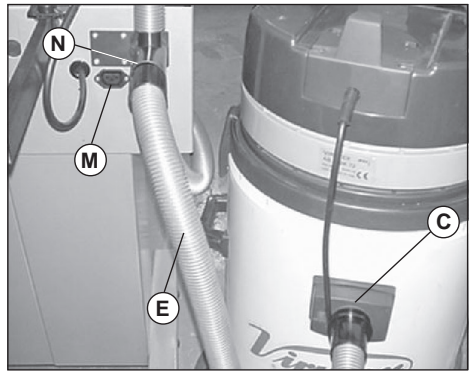

Fig. 4
- Insert the dust collector tube into opening C (Fig. 4) of the dust collector and into the socket of machine N (Fig. 4).
- Connect the aspiration tube to vacuum opening C (Fig. 4) and to the socket on the electric tool.
- Ensure that the float (Fig. 4) is not damaged or obstructed by anything that may stop it from rising. The floats function is to stop the suction when the tank is full or if the machine should overturn accidentally.